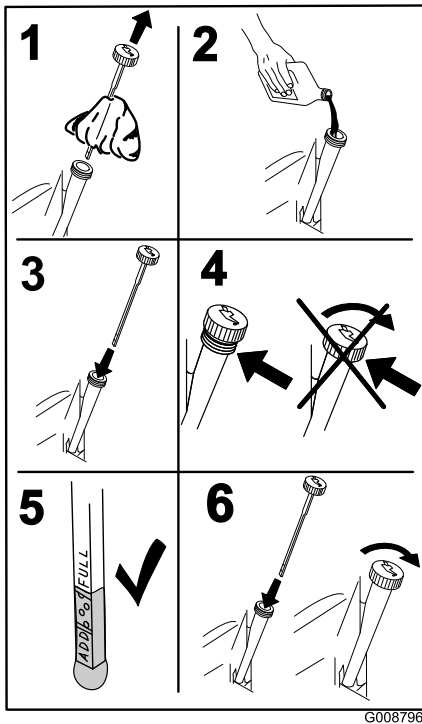

Figure 48
5. Slowly pour approximately 80% of the specified oil into the filler tube and slowly add the additional oil to bring it to the **Full** mark (Figure 48).